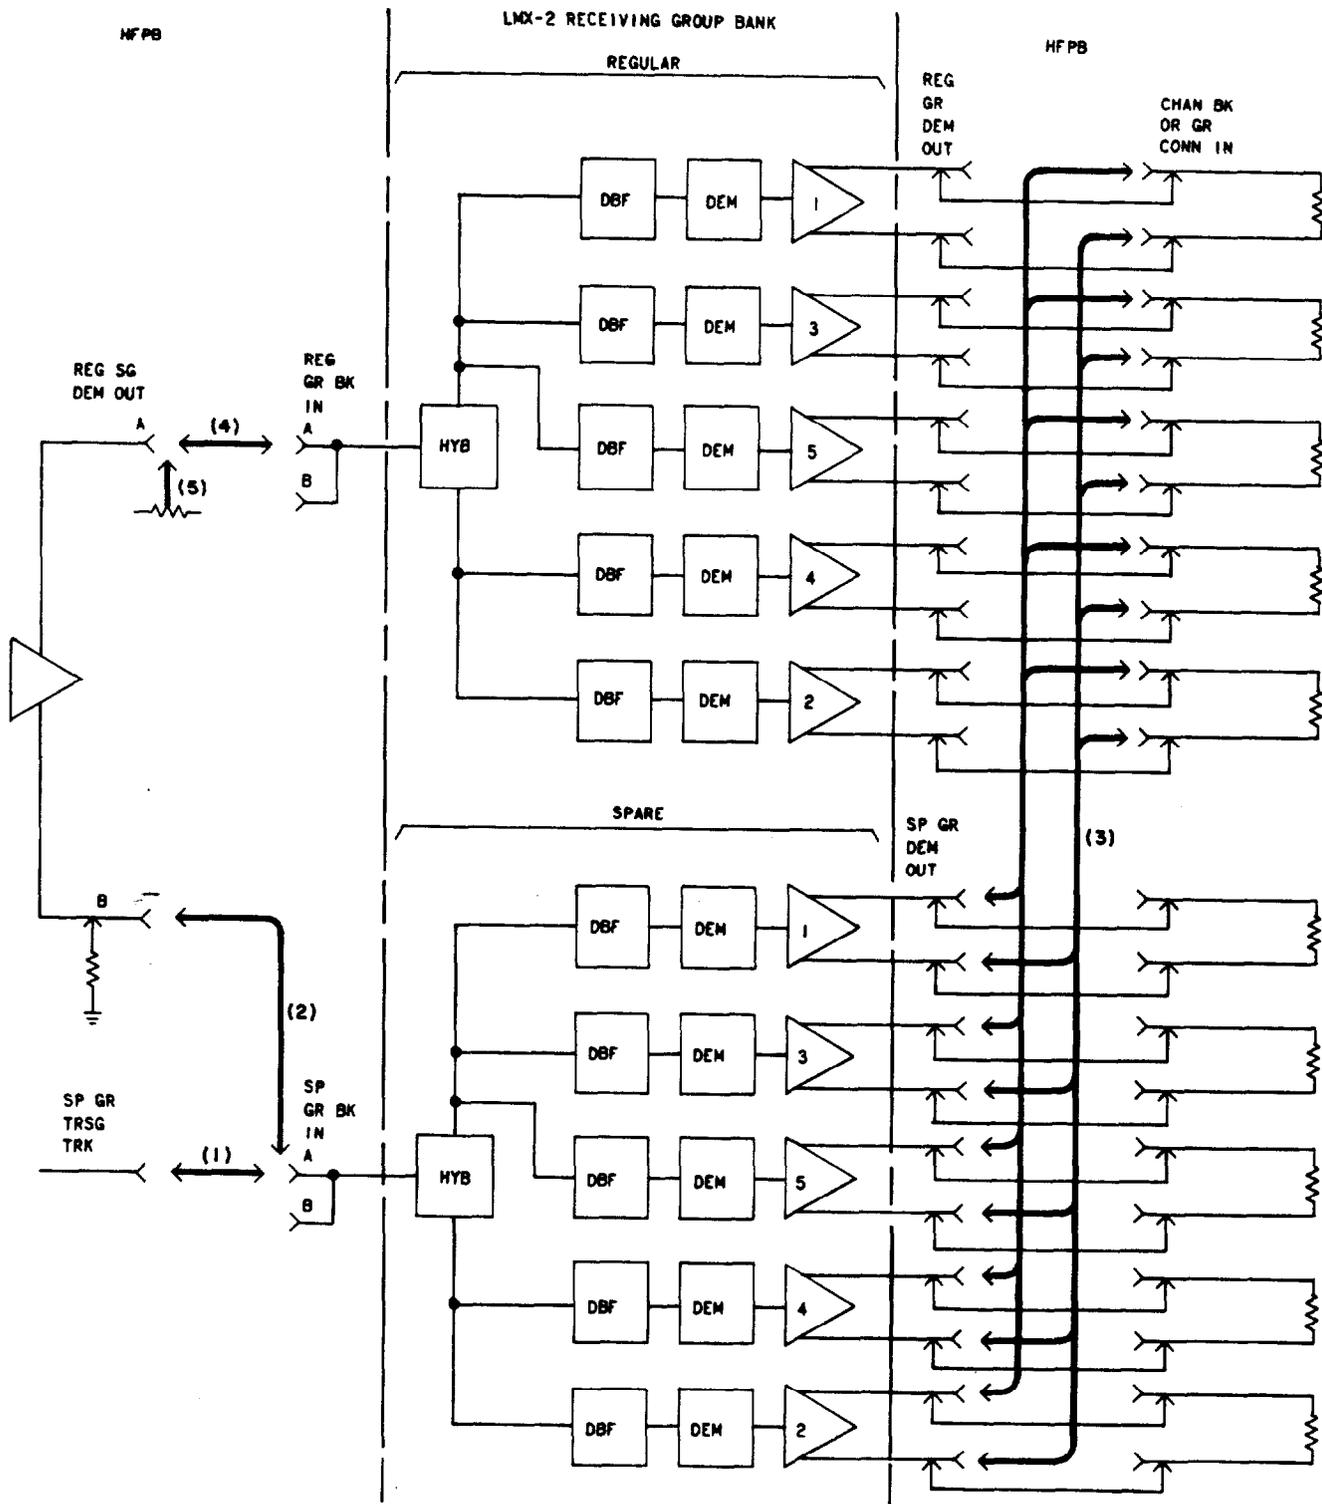
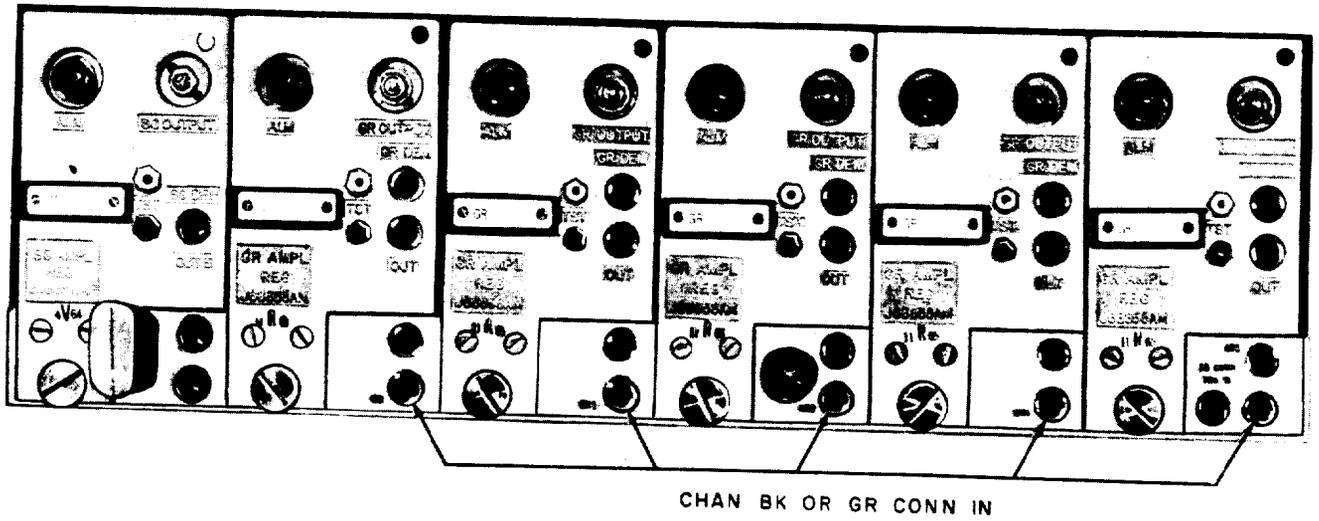

Fig. 2—Removing Regular Receiving Group Bank from Service
Fig. 3—Receiving Supergroup and Group Bank Amplifiers
Removing Regular Group Bank From Service (Fig. 2)
- (a) Remove the patch between the SP GR TRSG TRK and SP GR BK IN A jacks [patch (1), Fig. 2]. (A major alarm occurs on SP GR BK because group pilots are removed.)
- (b) Connect the REG SG DEM OUT B jack to the SP GR BK IN A jack [patch (2), Fig. 2].
- (a) Connect the SP GR DEM OUT jacks to the associated CHAN BK or GR CONN IN jack for group 1 [patch (3), Fig. 2]. (See Fig. 3 for undesignated jack location.)
- (a) Remove the patch between the REG SG DEM OUT A and REG GR BK IN A jacks [patch (4), Fig. 2]. (A major alarm will occur on each REG working group.)
- (c) Terminate, into 75 ohms, the REG SG DEM OUT A jack [patch (5), Fig. 2].
Restoring Regular Group Bank To Service (Fig. 3)
- (a) Remove the 75-ohm termination from the REG SG DEM OUT A jack [patch (5), Fig. 2].
- (b) Connect the REG SG DEM OUT A jack to the REG GR BK IN A jack [patch (4), Fig. 2].
Note: Read each step completely. (See Fig. 3 for undesignated jack location.)
(a) Remove the patch from the CHAN BK or GR CONN IN jacks for group 1 [patch (3), Fig. 2].
(c) Remove the patch from the SP GR DEM OUT jack for group 1 [patch (3), Fig. 2].
(a) Remove the patch between the REG SG DEM OUT B and SP GR BK IN A jacks [patch (2), Fig. 2]. (A major alarm will occur on SP GR BK.)
(b) Connect the SP GR TRSG TRK jack to the SP GR BK IN A jack [patch (1), Fig. 2].